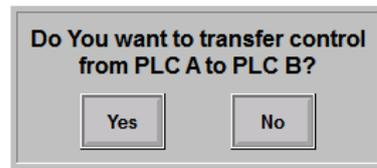

Figure 10.95: Example of the Dialog Box for Active PLC Change
- press **OK** in the opened dialog box to apply the control transfer (see Figure 10.95).